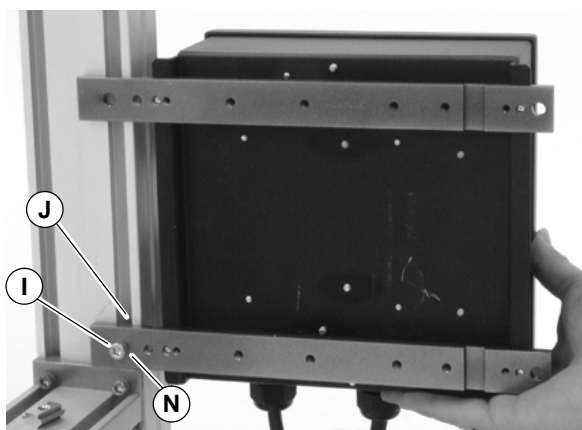

Figure 14
2. Install T-bar (J of Figure 14) into stand leg T-slot. Attach controller lower mounting bar (N) with screw (I).